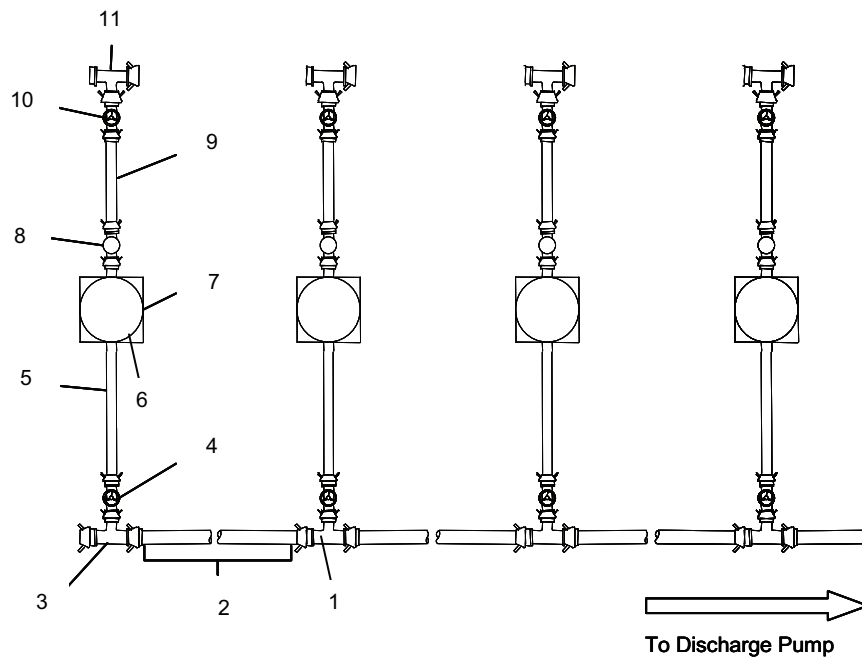

Figure 15. Installation of Filter-Separators.
62. Connect the 6 in. x 10 ft. discharge hose (Figure 15, Item 2) to the 6M x 6F x 4M tee assembly (Figure 15, Item 1).
64. Connect the 6 in. x 10 ft. discharge hose (Figure 15, Item 2) to the 6F x 6F x 4M tee assembly (Figure 15, Item 3).
66. Connect gate valve (Figure 15, Item 4) to the 6F x 6F x 4M tee assembly (Figure 15, Item 3).
68. Connect the 4 in. x 25 ft. discharge hose (Figure 15, Item 5) to the 4 in. gate valve (Figure 15, Item 4).
71. Place filter-separator (Figure 15, Item 6) into the spill berm (Figure 15, Item 7).
72. Ground filter-separator (Figure 15, Item 6) per Chapter 2 in FM 10-67-1.
73. Connect 4 in. x 25 ft. discharge hose (Figure 15, Item 5) to filter-separator (Figure 15, Item 6).
74. Remove the sampling probe adapter (Figure 15, Item 8) from side of the filter-separator (Figure 15, Item 6).
75. Connect the sampling probe adapter (Figure 15, Item 8) to the filter-separator (Figure 15, Item 6).
77. Connect the 4 in. 25 ft. discharge hoses (Figure 15, Item 9) to the sampling probe adapter (Figure 15, Item 8).
79. Connect the 4 in. gate valve (Figure 15, Item 10) to the 4 in. x 25 ft. discharge hose (Figure 15, Item 9).
81. Connect 6M x 6F x 4F tee assembly (Figure 15, Item 11) to 4 in. gate valve (Figure 15, Item 10).